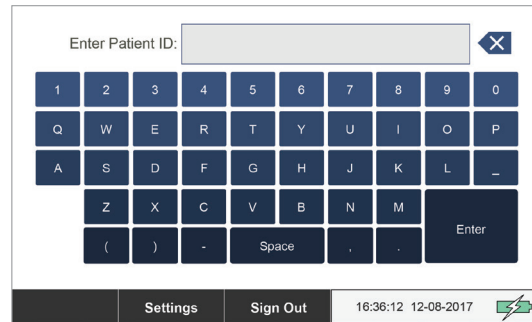

Figure 29 Patient ID Screen
7. Enter the Patient ID, then press **Enter** (see Figure 29). You will need to enter the Patient ID again to confirm.